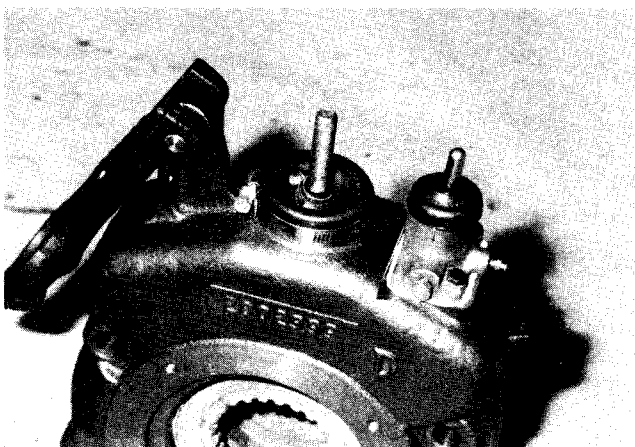

Figure 10
8. Install brake yoke dust cover using two hose clamps. (Figure 10)